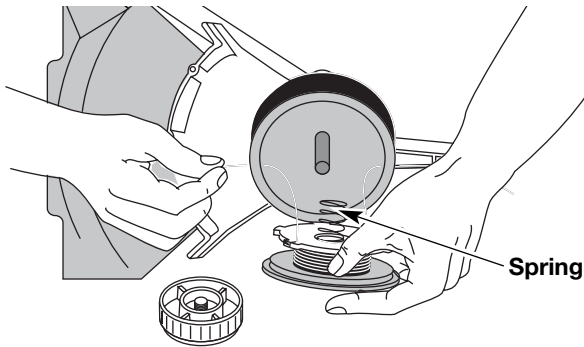

Fig. 31
13. Insert the ends of the line through the eyelets in the outer spool and place inner reel with spring inside the outer spool (Fig. 31). Push the inner reel and outer spool together. While holding the inner reel and outer spool, grasp the ends and pull firmly to release the line from the holding slots in the reel.
5. Insert the ends of the line through the eyelets in the outer spool (Fig. 31).